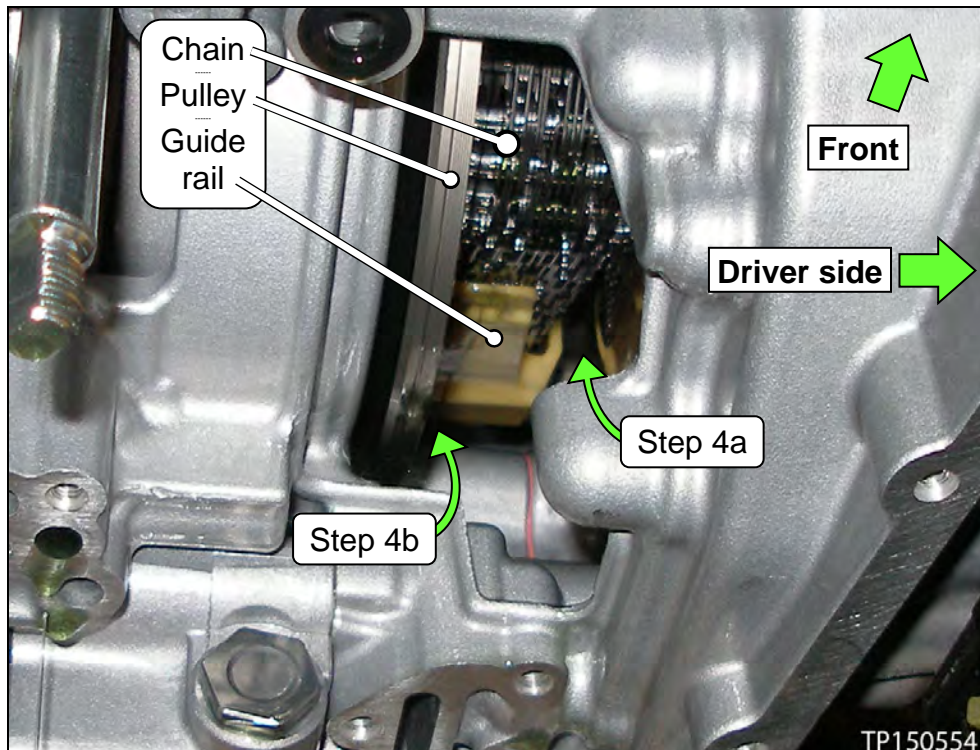

Figure 6
- Insert the camera lens behind the pulley between the guide rail and the pulley where shown in Figure 6 (also see page 9-10, Figure 7-10).